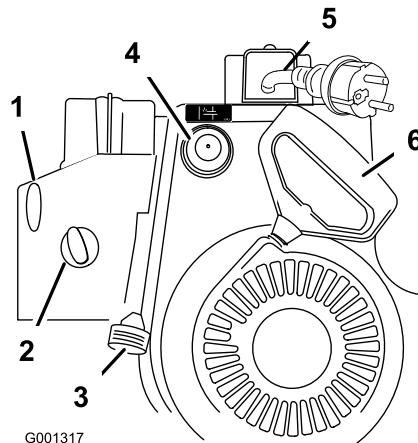

Figure 20
7. Start the snowblower using the recoil starter or the electric starter (Figure 20).